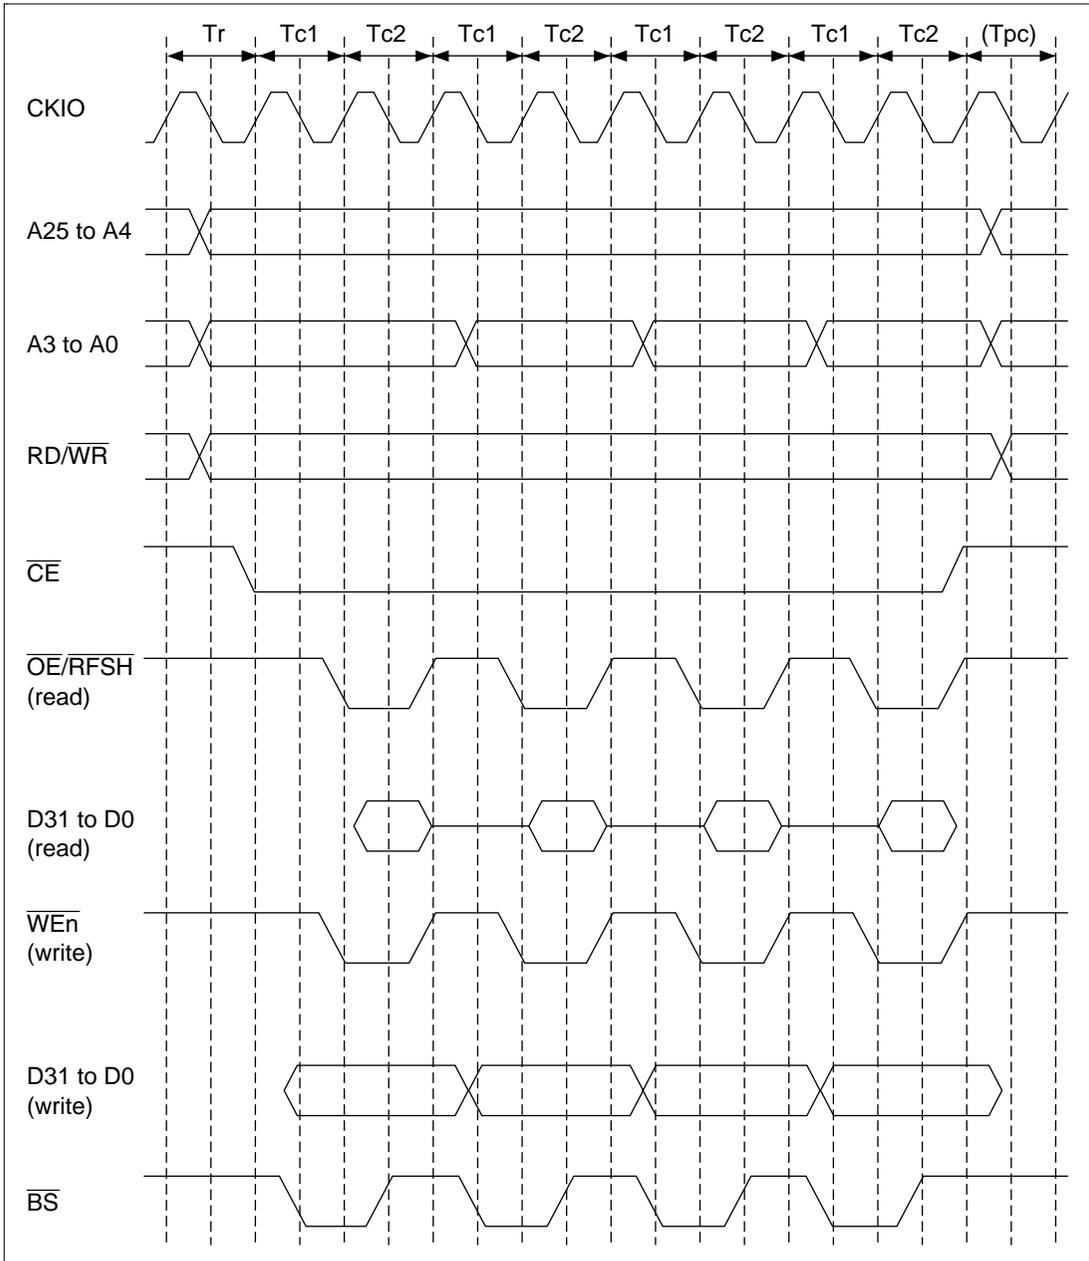

Figure 10.36 Pseudo-SRAM Static Column Mode
Burst Access: In addition to the normal access mode in which \overline{CE} is asserted and negated in each access, some pseudo-SRAMs are provided with a static column mode for the case where consecutive accesses are made to the same row address. This mode allows fast access to data by keeping \overline{CE} asserted and changing only the column address. Normal access or burst access using static column mode can be selected by means of the burst enable (BE) bit in MCR. The timing for burst access in static column mode is shown in figure 10.36. Cycles can also be inserted by the wait state control function when burst access is performed.